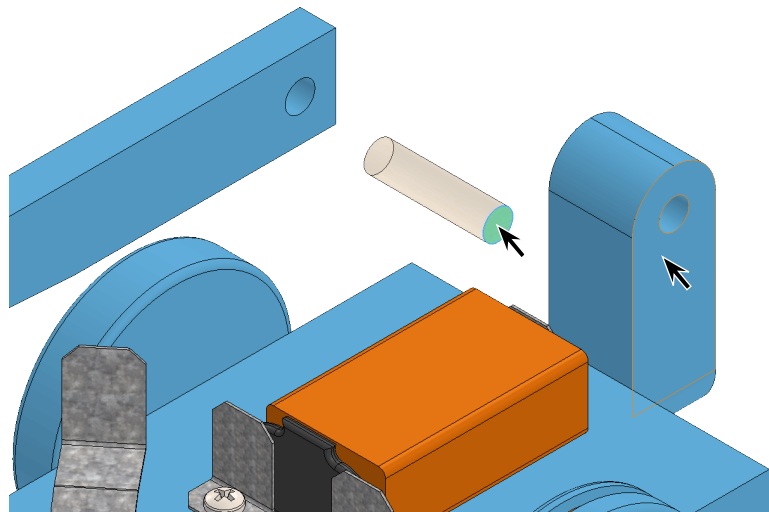

Fig. 12
Step 2. Click **end face of the Axle** and **side face of Arm**, **Fig. 12**.